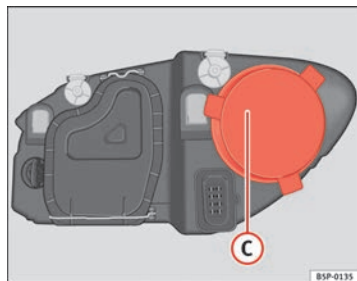

Fig. 183 Main beam headlights
- Remove the cover ⇒ fig. 183 ③ by pulling on this.